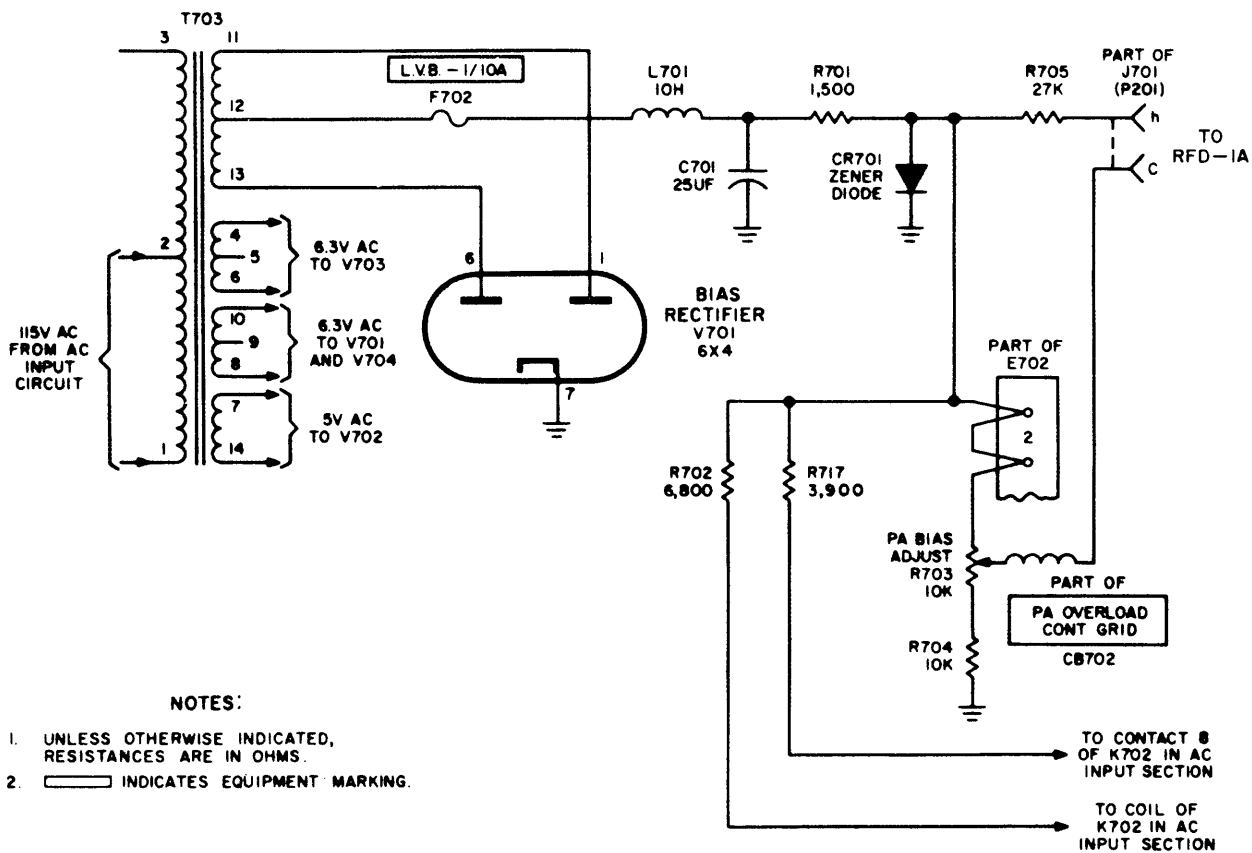

Figure 4-9. Simplified Schematic Diagram, Bias Power Supply Section, PS-4A
**d. BIAS POWER SUPPLY (See figure 4-9).**
(1) 115 VAC is applied to the primary of transformer T703 from the a-c input circuit (figure 4-7). The secondary of T703 has four windings; three windings provide filament voltage for the tubes in the mid-voltage power supply. The fourth winding provides plate voltage for bias rectifier V701 (figure 4-9).
(2) The rectified output of V701 is taken off pin 12 of T703 and applied, through LV B- 1/10A fuse F702, to an LC filter network (L701 and C701). The -150 VDC output of the filter network is applied to pin h of J701 jack through R701 and R705. Voltage is regulated by Zener diode CR701. A portion of this voltage is tapped off R703, PA BIAS ADJ resistor, and applied to pin C of J701 via the coil of PA OVERLOAD CONT GRID circuit breaker CB702.